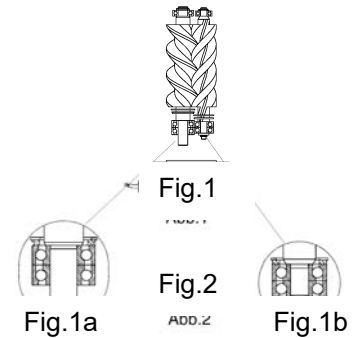

Fig.3
- mount measuring casing (Fig.3)